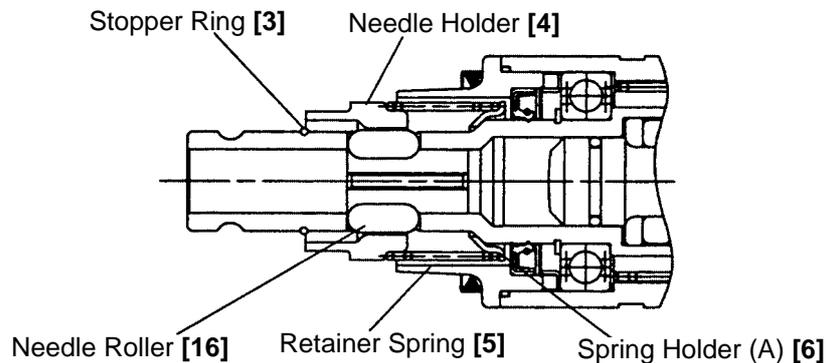

Fig. 15
Remove the Stopper Ring **[3]** using a retaining ring puller. Then the Needle Holder **[4]**, two Needle Rollers D8 x 20 **[16]**, Retainer Spring **[5]** and Spring Holder (A) **[6]** can be removed from the Retainer Sleeve **[17]** (Fig. 15).
(2) Disassembly of the piston and the striker